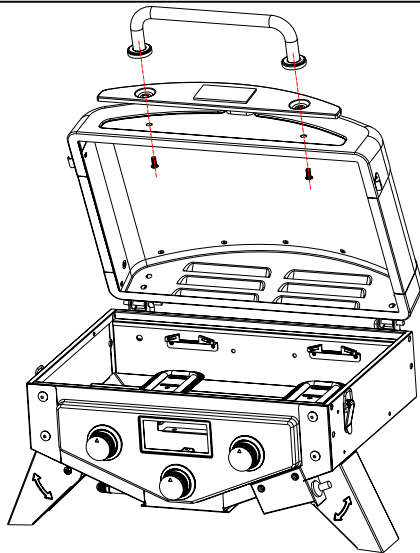

Fig. 4
*Locate:* Lid Decorative Plate, Lid Handle and (2) M6x20 bolts
*Procedure:* Attach the Lid Decorative Plate and Lid Handle to the Grill Lid using (2) M6x20 bolts as shown in Fig. 4.